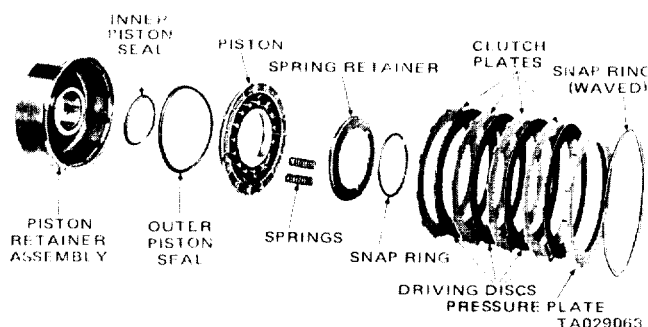

Figure 8-12. Front Clutch.
a. Disassembly. Figure 8-12 shows a disassembled view of the front clutch assembly.